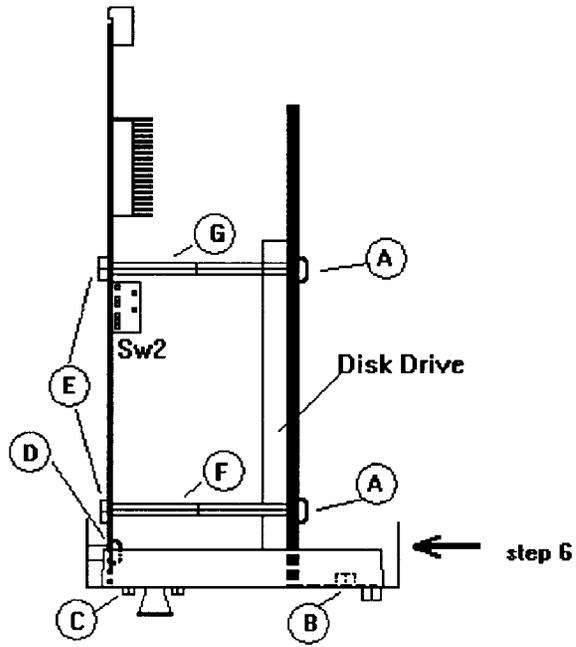

Figure 3 Processor Module (viewed from top)
1. Unscrew the four posidrive screws which secure the Disk Drive with it's metal shield to the disk-drive supports on the CPU Board (Figure 3 item A).
2. Unscrew the nut which secures the Disk Drive to the CPU module front panel (Figure 3 item B).
5. Unscrew the two nuts which secure the PARALLEL Interface Connector to the module Front Panel (Figure 3 item C).
6. Using a long posidrive screwdriver, unscrew the two screws which secure the module Front Panel to the CPU Board (Figure 3 item D).
8. Unscrew the nuts (Figure 3 item E) securing the four disk-drive supports to the CPU Board. Discard these supports (Figure 3 items F and G).
9. Fit the two new supports from the kit in the rear two support holes only (Figure 3 item G).